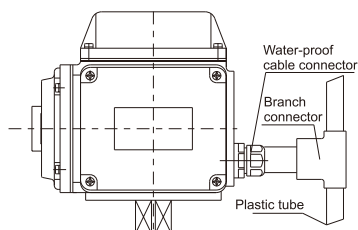
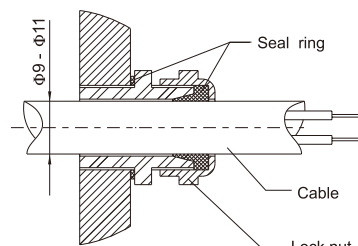

Fig.1
Fig.2
- Refer to Fig.1 when installing pipes.
- ① The outer diameter of the pipe shall be $\Phi 9\sim \Phi 11$.
- ② Waterproof shall be fully adopted.
- ③ The electric actuator shall be located higher than the pipe, so water in the pipe will not flow into the unit and the safety of the unit can be ensured.
- The outer diameter of the cable shall be $\Phi 9\sim \Phi 11$, refer to Fig. 2. No cable, which is not fit to the inner diameter of waterproof cable connector, is allowed to use. Otherwise, water may enter into the unit through the connector to damage the parts inside actuator.